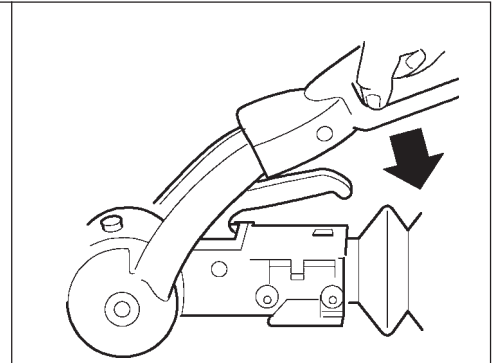

Fig. 2
- Press the black stabilising lever down. The AKS is now ready for the road (Fig. 2).